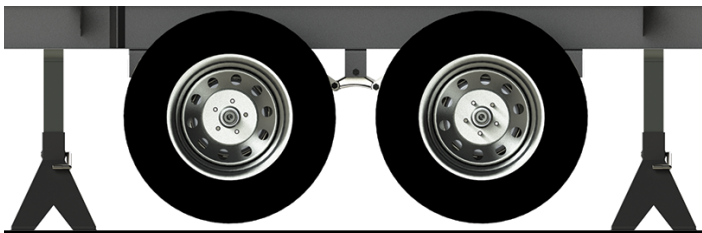

Fig.1
4. Using the properly-rated floor jacks, lift the trailer according to the manufacturer's recommendation until the wheels are no longer in contact with the ground (Fig.1).